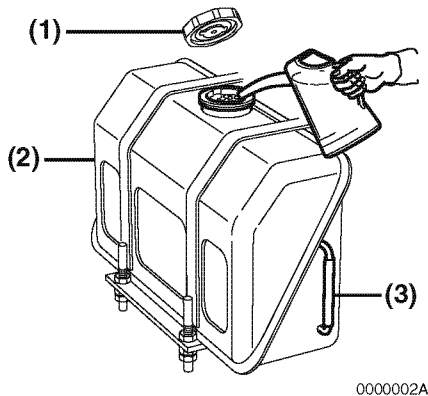

Figure 4-3
1. Clean the area around the fuel cap (Figure 4-3, (1)).
2. Remove the fuel cap (Figure 4-3, (1)) from the fuel tank (Figure 4-3, (2)).
3. Observe the fuel level sight gauge (Figure 4-3, (3)) and stop fueling when gauge shows fuel tank is full. NEVER overfill the fuel tank.